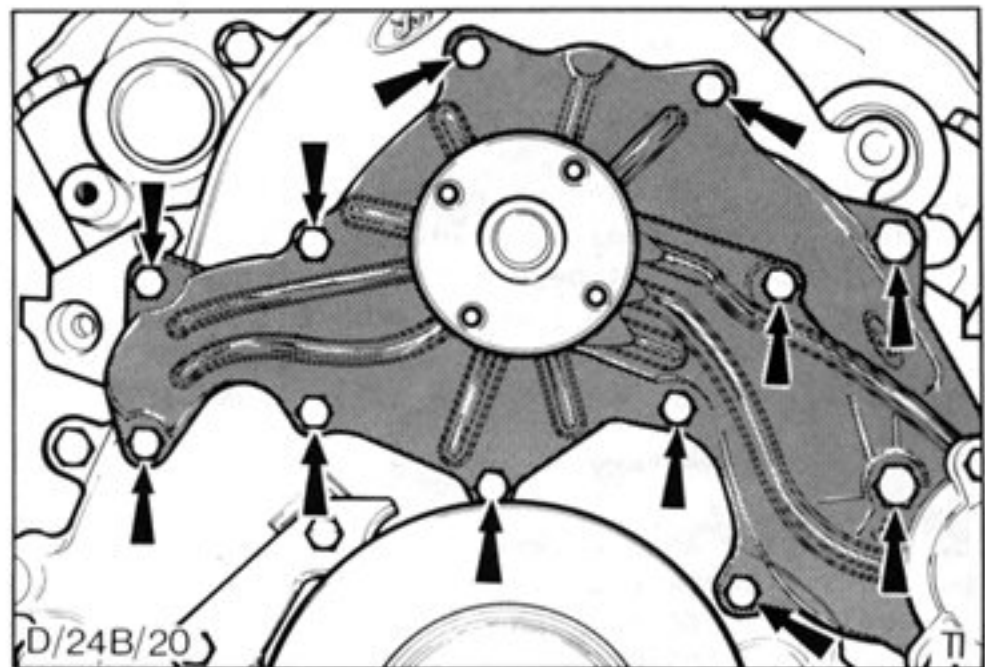

Fig.25. Water pump assembly retaining bolts.
7. Remove twelve bolts and detach water pump assembly, Fig.25.